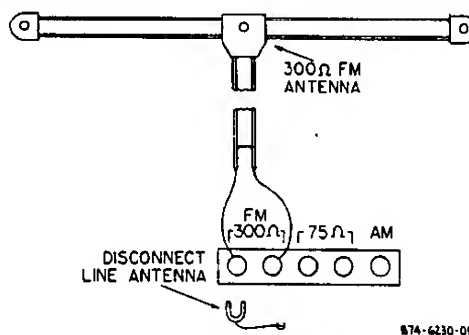
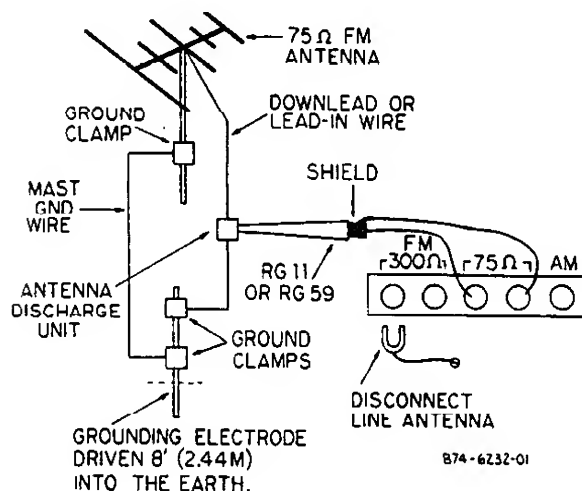

Figure 2 - Connecting Indoor FM Antenna, 300 Ohm System
Figure 3 - Connecting Outdoor FM Antenna, 75 Ohm System
**EXTERNAL FM ANTENNA.** If installing a standard 300-ohm antenna system, connect the twin-lead transmission line as shown in Figure 2. If conditions require use of a coaxial transmission line, such as RG-11 or RG-59, connect as shown in Figure 3. Always disconnect the FM line antenna when using external FM antenna.